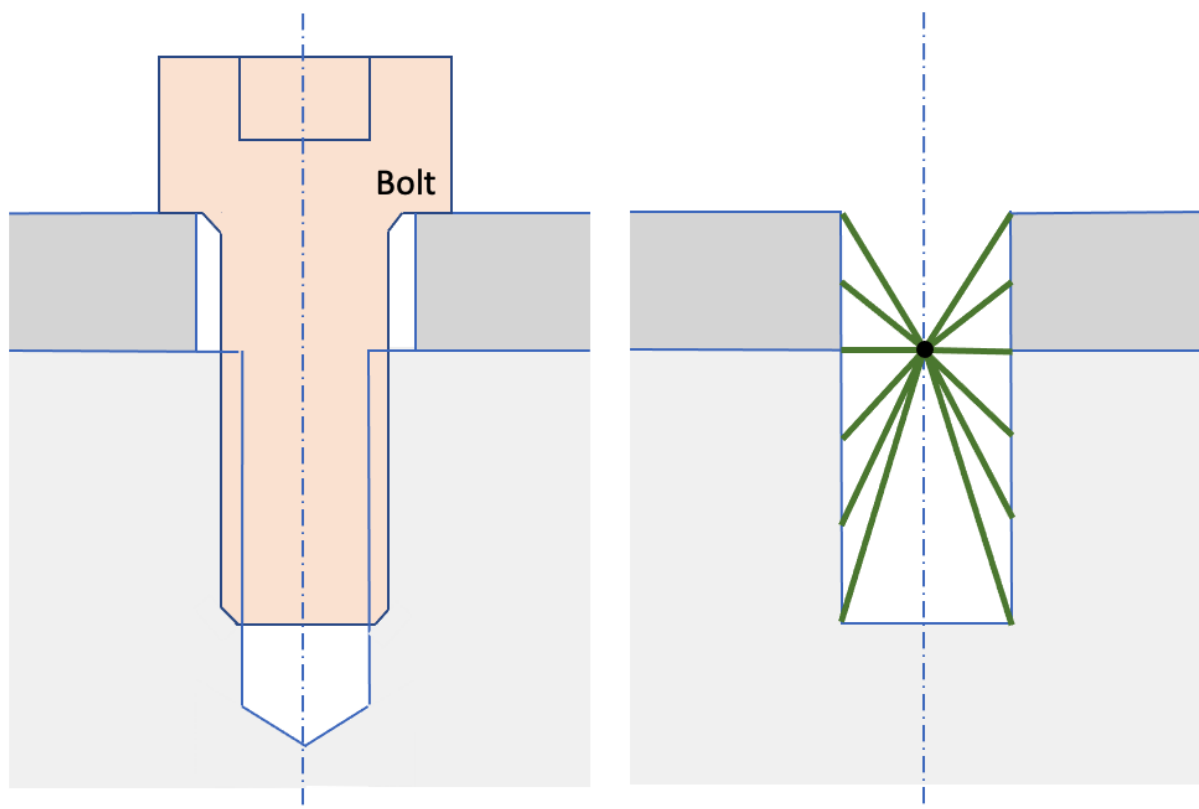

Figure 2. Example before and after of the Reduce Bolt Spider J2G command
2. **j2g:** Shown in figure 2., a center node is generated and assigned to the **rebar** block. In addition, beams are generated extending from the the rebar node radially connecting all nodes of the cylindrical surfaces of the hole. The radial beam elements are assigned to the **spider** block.